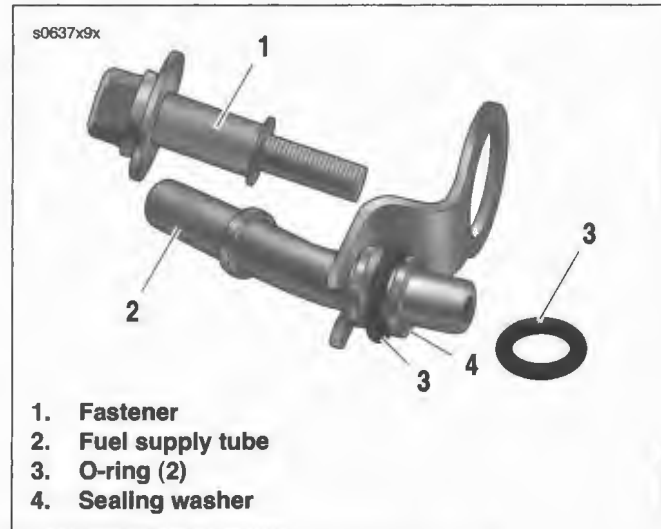
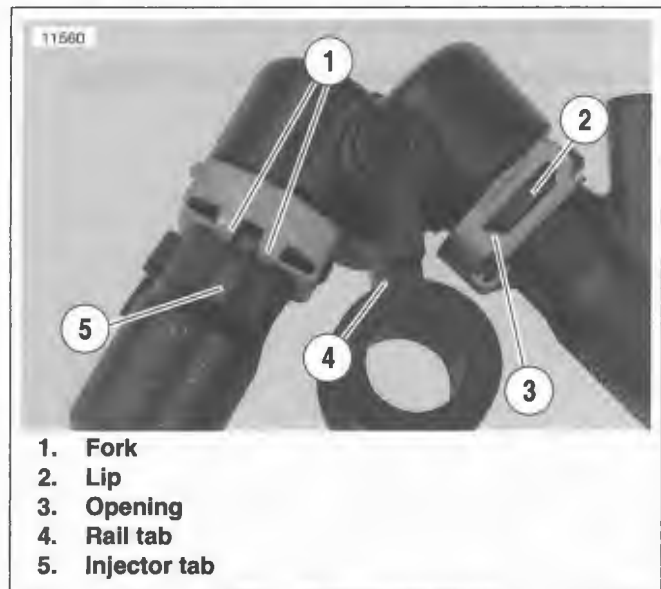

Figure 4-33. Fuel Supply Tube
Figure 4-34. Fuel Rail
2. See Figure 4-33. Remove fastener (1) retaining fuel supply tube (2).
3. Pull fuel supply tube from fuel rail. Remove sealing washer (4) and o-ring (3) from fuel supply tube. Remove second o-ring from fuel rail bore. Discard sealing washer and o-rings.
4. See Figure 4-34. Pull fuel injectors with attached fuel rail from induction module. To overcome the resistance of the bottom o-ring on both fuel injectors, gently rock assembly back and forth while pulling.
2. See Figure 4-34. Push electrical connector side of fuel injectors into fuel rail.
3. With the concave side toward the fuel rail, install spring clip into slot on fuel injector. In the installed position, openings (3) in sides of clip engage lip (2) on fuel rail, while fork (1) at back of clip captures rail tab (4) on fuel injector.
5. See Figure 4-33. Slide **new** o-ring (3) down shorter neck of the fuel supply tube until it contacts the collar. Slide **new** sealing washer (4) down tube until it contacts o-ring. Install second o-ring (3) in fuel rail bore.
6. Push fuel supply tube (2) into fuel rail bore until clamp is seated on round step of fuel rail. Install fastener (1) and tighten to 90-110 **in-lbs** (10.2-12.4 Nm).